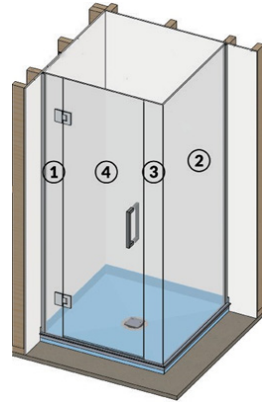

FIG.5
- When panels are correctly aligned, remove Panel 1 (FIG 5), and run a thick continuous line of silicone down the inside of the wall channel (FIG 6) and apply liberally in the wall to floor channel join and along the floor channel to the length of the glass panel.